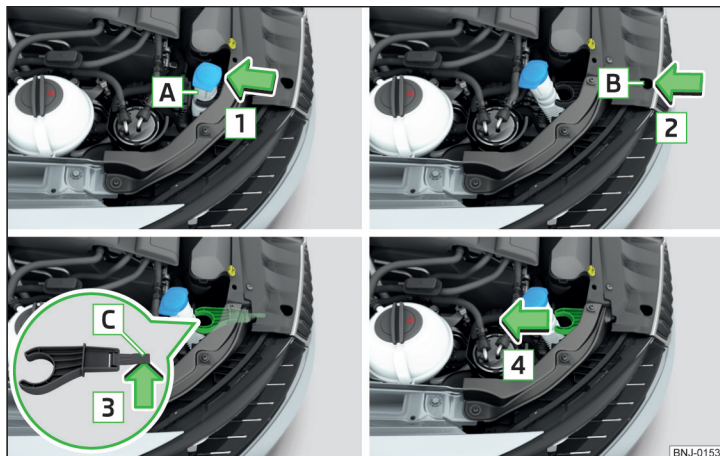

Fig. 207 Remove the mounting for the mopping water container nozzle
- Remove the container nozzle **A** from the holder in the direction of arrow **1** » Fig. 207.
- Slide the holder of the container nozzle in the opposite direction to the arrow **4** » Fig. 207.